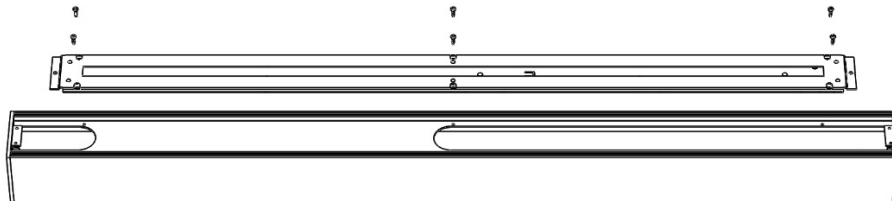

Fig. 11
3. Remove six #6 flat head screws and lift up the uplight component. (Fig. 11)